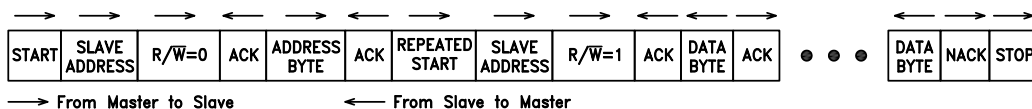

Figure 7. Master reads from slave.
- Write/Read Cycle** (master writes to slave and then reads from slave. See Figure 7): after addressing the slave with the R/W set to 0, the master sends the first byte indicating the internal register address of the slave device where the first data byte is to be read. The master then generates a new Start condition, also known as a Repeated Start condition and addresses the slave device again, this time followed by the R/W bit set to 1. The slave replies with an acknowledge bit, followed by the first data byte. Now the master must in turn reply with an ACK if more data bytes are to be read from the slave or with a NACK followed by a Stop condition to indicate the end of the Write/Read cycle.